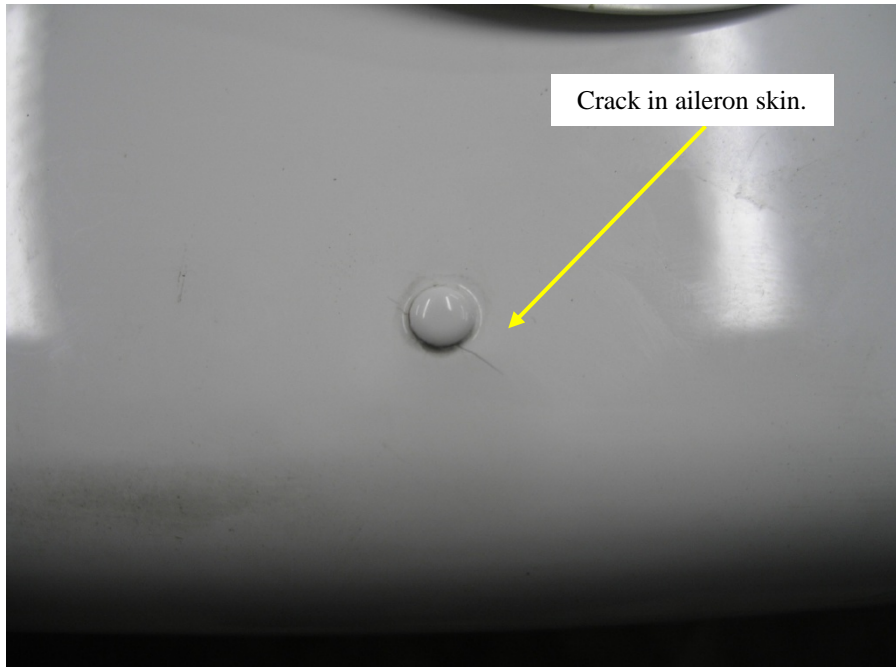

Figure 5-2: Example of Leading Edge Skin Crack
2. Inspect the leading edge skin around the ribs, on the inside and outside, for cracks, chips, and general condition. Refer to **Figure 5-2**.